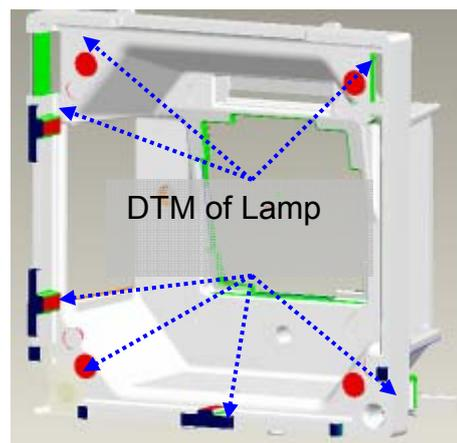

Fig. 1-14
- iii. To make sure that three datum contact with the lamp well (Fig. 1-14).